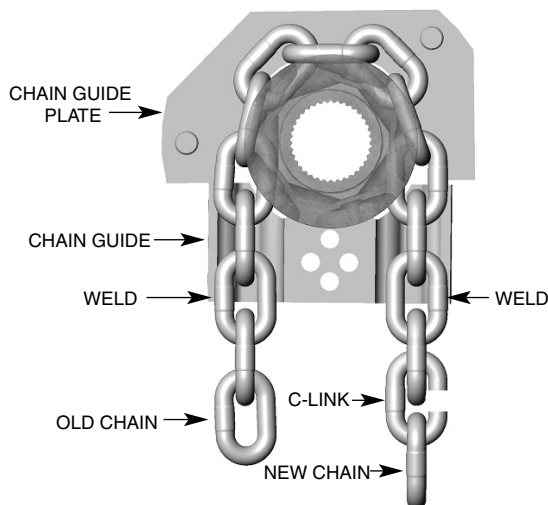

FIGURE 5-3. CHAINING HOIST
- e. Make a “C”-shaped chain link by grinding through one side of the end link of either the old or new chain. See Figure 5-3.
2. Motor brake requires adjustment.	2. Check motor brake adjustment. See Figure 5-3.